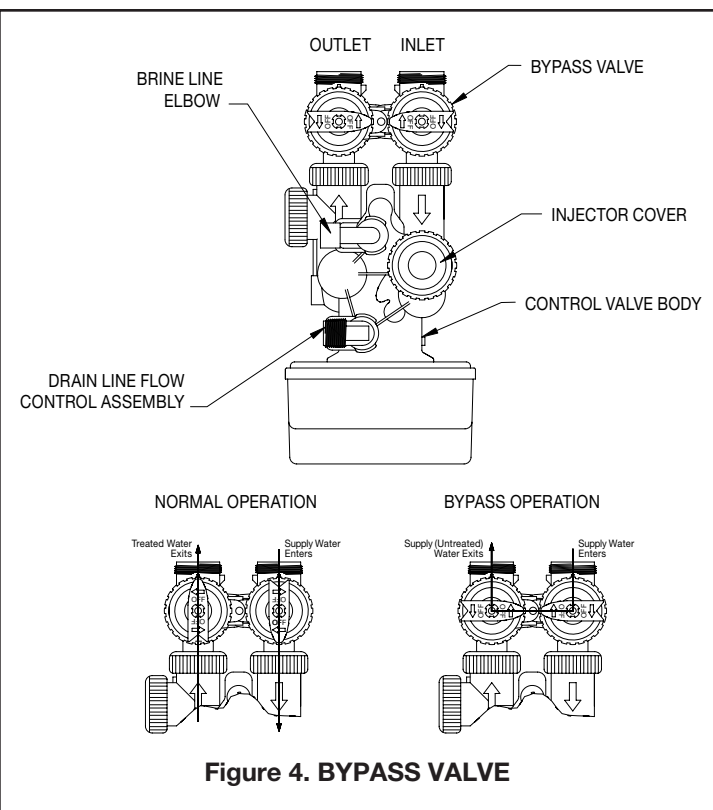

Figure 4. BYPASS VALVE
Step 14) Partially open the inlet knob on bypass valve (Figure 4). This will allow the unit to fill slowly from the bottom up, reducing air entrapment. Allow the unit to fill slowly, failure to do so could result in loss of resin to the drain. Once a steady stream of water, with no air sputtering, is flowing to the drain, the inlet and outlet bypass knobs can be fully opened (refer to Figure 4). Allow water to flow for 30 minutes.